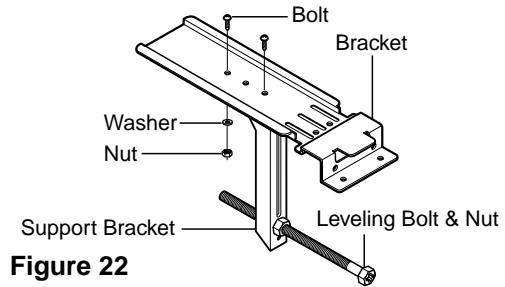

Figure 22
1. Loosely attach the support bracket to the bottom of bracket using bolts, washers, and nuts. Attach the leveling bolt and nut. (See Figure 22)